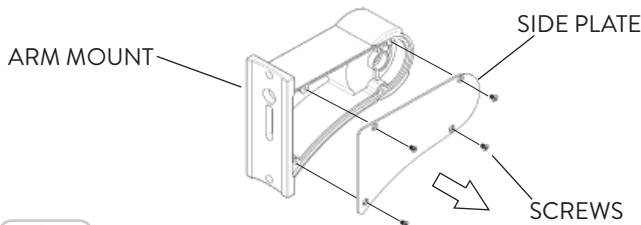

FIG. 13
- 4** Remove the Screws (4) and the Side Plate from the Arm Mount before installing the FFHL fixture (Fig. 13).
- 6** Run the Power Cable through the Pole. Place the Locking Plate and Gasket inside the Mounting Pole and fasten the FFHL fixture with the Arm Mount onto the Pole with the Cap Head Screws (Fig. 15). For the Round Pole, repeat Steps 2-4, except the remove the Square Pole Gasket for Step 3. Reinstall the Side Plate (Refer to Fig. 13).